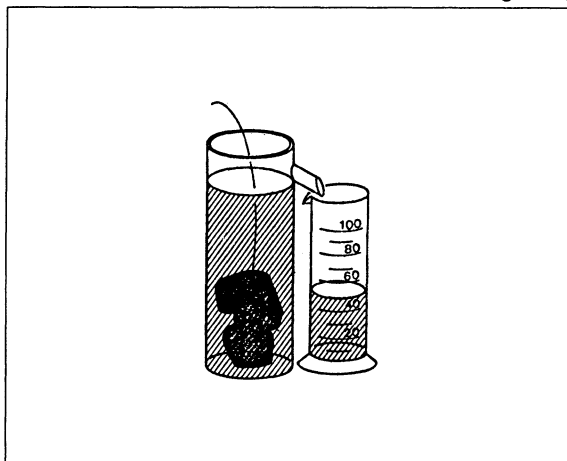

Fig. 5 ► 19.
19. What are the advantages of using an overflow vessel to determine the volume of an irregularly shaped body (► fig. 5)?